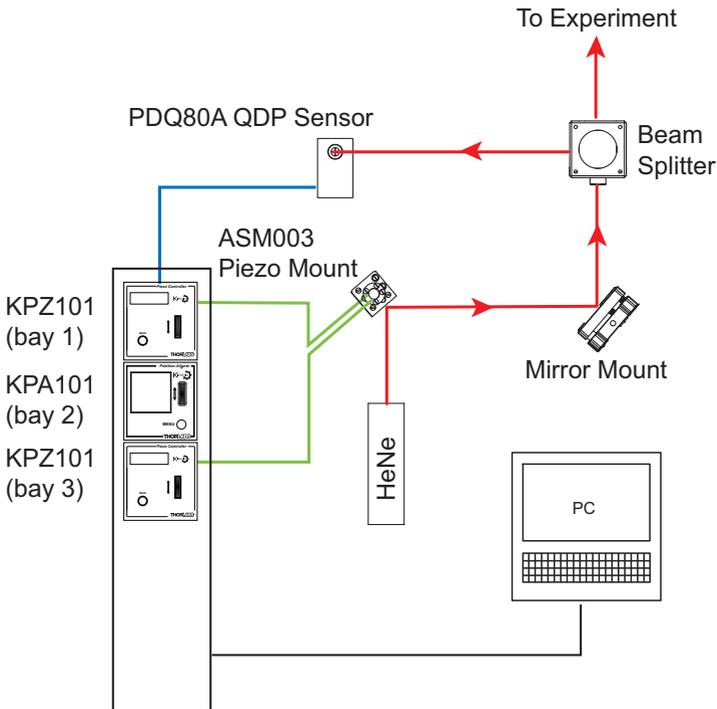

Fig. 5.2 Typical Set Up
The following procedure describes a typical set up, with the KPA101 position aligner cube being used with a pair of KPZ101 piezo driver cubes on the KCH601 controller hub - see Fig. 5.2 for a general system schematic diagram. The K-Cube positions on the hub and associated parameter settings described are by no means the only possible options. For further information, see Section 5.2.3.
- 2) Install the K-Cube units onto the controller hub. Fit a piezo unit in bay 1, the position aligner in bay 2 and the other piezo unit in bay 3, as shown in Fig. 5.2.
- 5) Install any mechanical components such as turning mirrors etc. which may be required in the beam path. - see Fig. 5.2 for a typical set up..
Output Voltage Range - For the ASM003 mirror shown in Fig. 5.2, set 75V, (for other piezo mirrors, set 75V, 100V or 150V whichever is applicable).
The default settings for the Position Demand Sense is 'Positive', which is correct for the set up shown in Fig. 5.2. If the check described at item (5) shows a negative demand sense, then it will be necessary to change the *Position Demand Sense* parameter in the Settings panel - see Section 6.2.
The default settings for the Position Demand Sense is 'Positive', which is correct for the set up shown in Fig. 5.2. If the check described at item (7) shows a negative demand sense, then it will be necessary to change the *Position Demand Sense* parameter in the Settings panel - see Section 6.2.